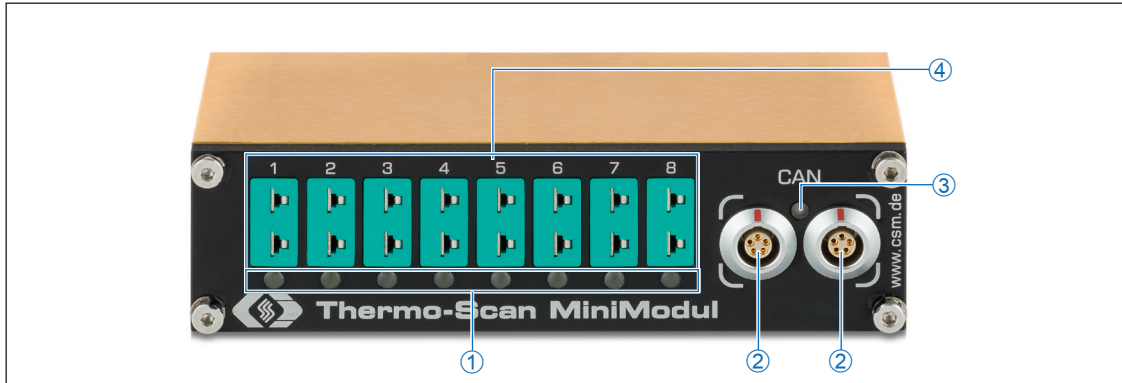

Fig. 3-1: TH8 pro, front view
3 The CAN/power supply connectors in Fig. 3-1 are equipped with 5-pole LEMO 0B sockets. Customer-specific modifications may occur. Further technical specifications remain unaffected.
The LED indicator (Fig. 3-1, ③) between the two CAN sockets provides information on the operating status of the measurement module.
The measurement channel LEDs (Fig. 3-1, ①) provide information on the status of the corresponding measurement channel and the sensor excitation. Only the "pro" modules are equipped with measurement channel LEDs.
The two connectors embedded in the front panel on the right-hand side of the housing (Fig. 3-1, ②) are used for both CAN signals and power supply. The interface cable connects the measurement module to the data acquisition system and to the power supply.